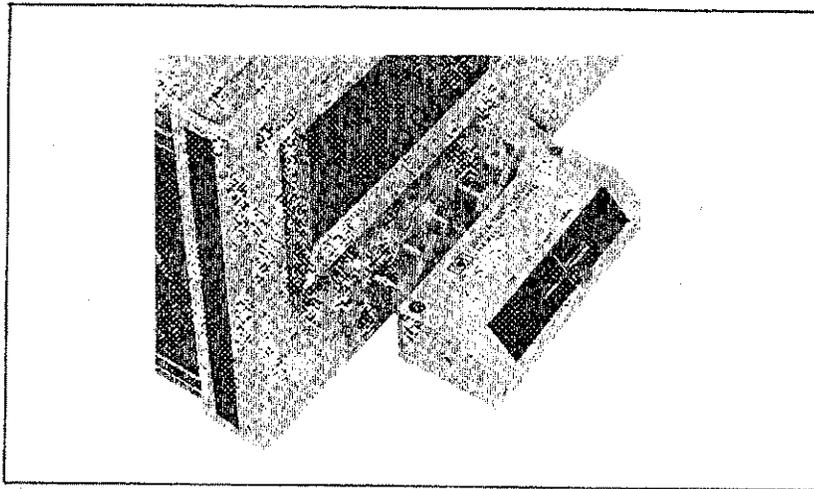

Figure 2-5. Ceramic Capacitor Connection
28. Remove the shorting bar and connect a ceramic capacitor as shown in Figure 2-5.